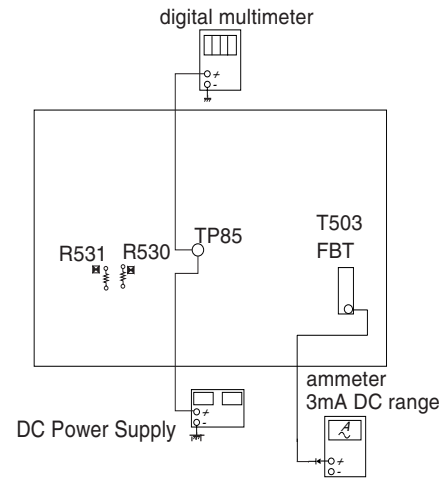

Figure 1
- Connect the current meter between Pin 11 of the FBT (T503) and the PWB land where Pin 11 would normally attach. (See Figure 1).
- Connect the digital voltmeter and the DC power supply to TP85 and ground. (See Figure 1).